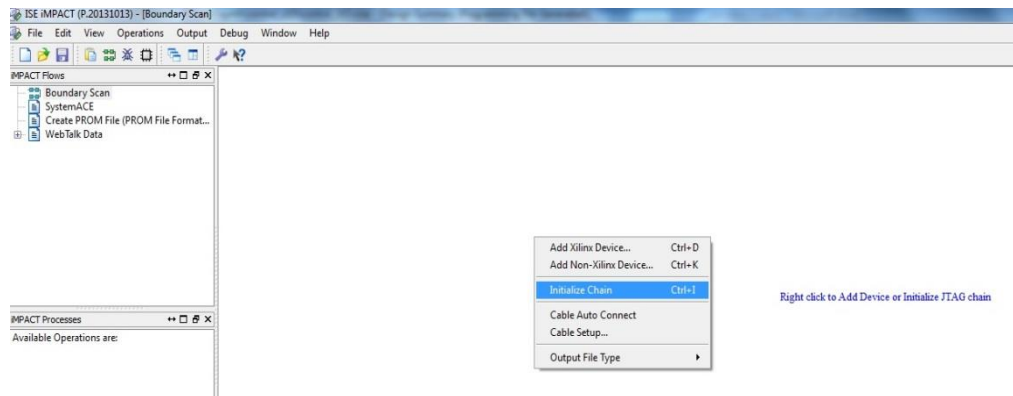

Fig. 11: Initializing JTAG Chain
45. Right click and select Initialize chain as shown in Fig. 11.